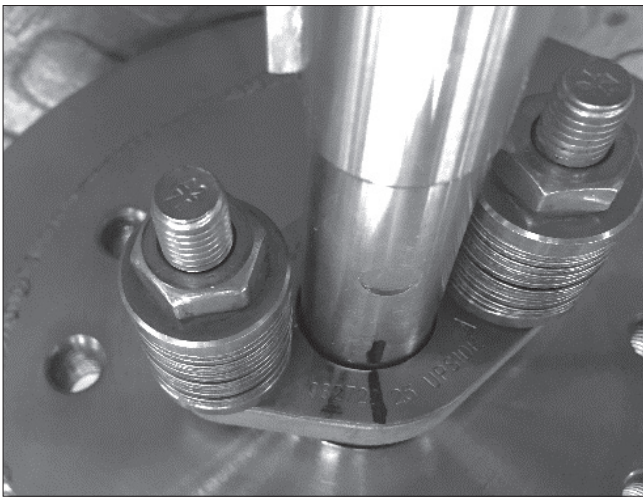

Fig. 11 Marking of shaft position to gland
- Manually mark the position of the stem to the stuffing box with a water proof marker. (see Figure 11)